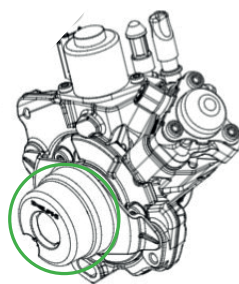

fig 3
- » before fitting the replacement pump, remove the plastic protection cover from the drive gear (fig 3)